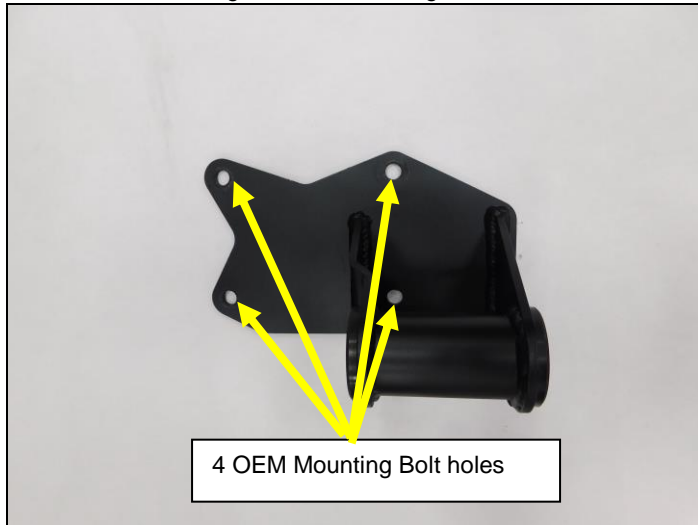

Figure 3
- With the engine out of the vehicle, install the driver's side (Left) engine mount to the engine block using (x4) M10 x 25MM flange bolts provided. Install the mount with the polyurethane mount toward the front of the engine using the OEM engine mount locations on the engine block. **NOTE:** Always use at least 4 mounting bolts (**Figures 3 & 4**).